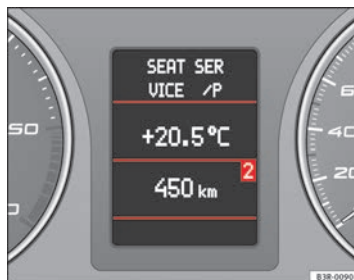

Fig. 65 Driver information system
- Press the **MODE** button (B) repeatedly to switch between modes, which are then displayed in the driver information system ⇒ fig. 65.
- Scroll and press the left thumbwheel (A) to select a function from one of the menus.
- The speech control system* for the on-board phone system is enabled by pressing the talk button (C). Pressing the talk button again disables speed control*.
- Scroll the right thumbwheel (D) up/down to raise/lower the volume as desired. ■